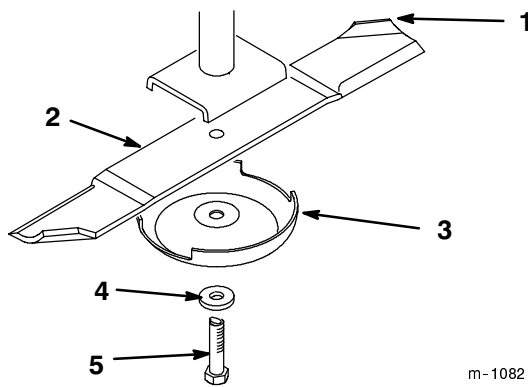
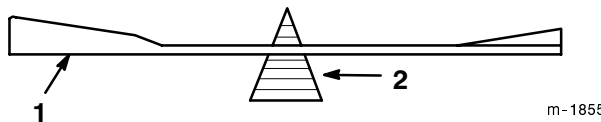

Figure 11
Figure 13
1. Hold the blade end using a rag or thickly-padded glove. Remove the blade bolt, washer, anti-scalp cup and blade from the spindle shaft (Fig. 11).
1. Check the balance of the blade by putting it on a blade balancer (Fig. 13). If the blade stays in a horizontal position, the blade is balanced and can be used. If the blade is not balanced, file some metal off the end of the sail area only (Fig. 11). Repeat this procedure until the blade is balanced.
1. Install the lock washer and blade bolt (Fig. 11). Torque the blade bolt to 85-110 ft-lb (115-140 N•m).